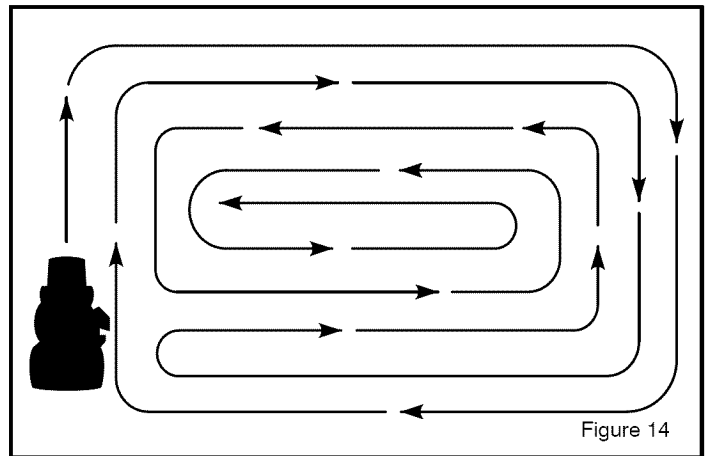

Figure 14
8. When you mow large areas, start by turning to the right so that the cut grass will discharge away from shrubs, fences, driveways, etc. After one or two rounds, mow in the opposite direction making left turns until finished (Figure 14).